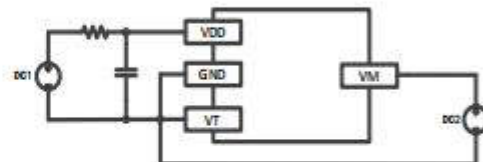

Figure6-2
a. According to the figure6-2, connect the power supply DC1 to the B + and GND pins of the system board and set the voltage to about 3.6V. Connect the DC2 power supply from VM to GND, set the 100mV current limiting 10mA, and observe the waveform.